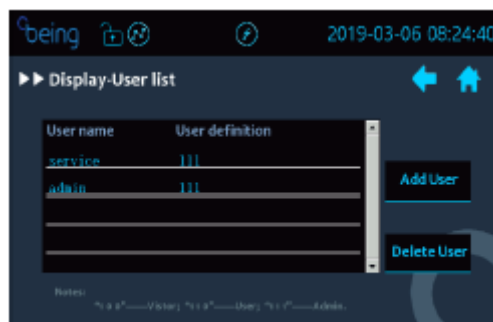

Figure 1-21.
8. Touch the “User Management” button from the setting page to enter the user management page, as shown in Figure 1-21.